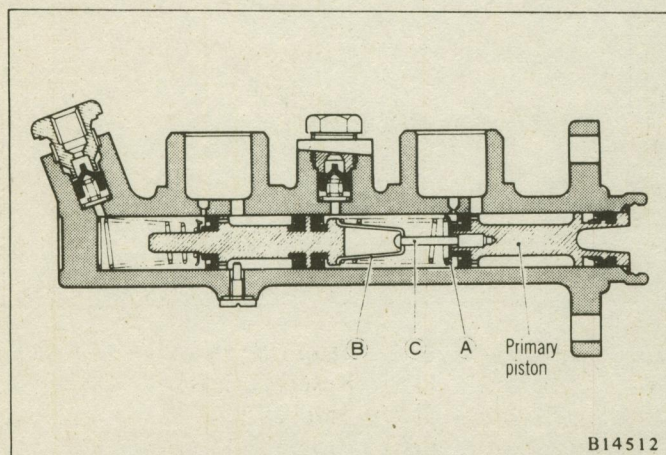

Fig. 7 Sectional View of Master Cylinder
Do not disassemble the primary piston assembly because the distance between spring seat (A) and spring retainer (B) is factory-adjusted by means of forming screw (C). (See Fig. 7)